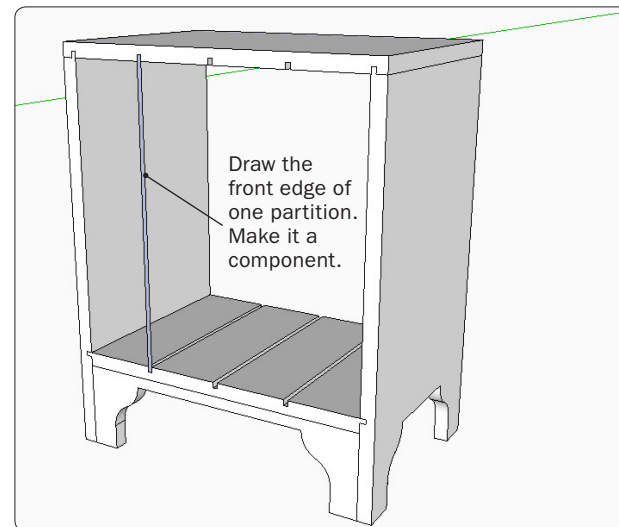

Figure 16. Begin drawing the partition component.
Step 13 With the Line Tool, draw the front face of the partition so that it fills the front of the grooves on the top and bottom components, as shown in Figure 16. Double-click on the shape to select it, then right click and choose Make Component from the pop-up menu. Name the component Partition.